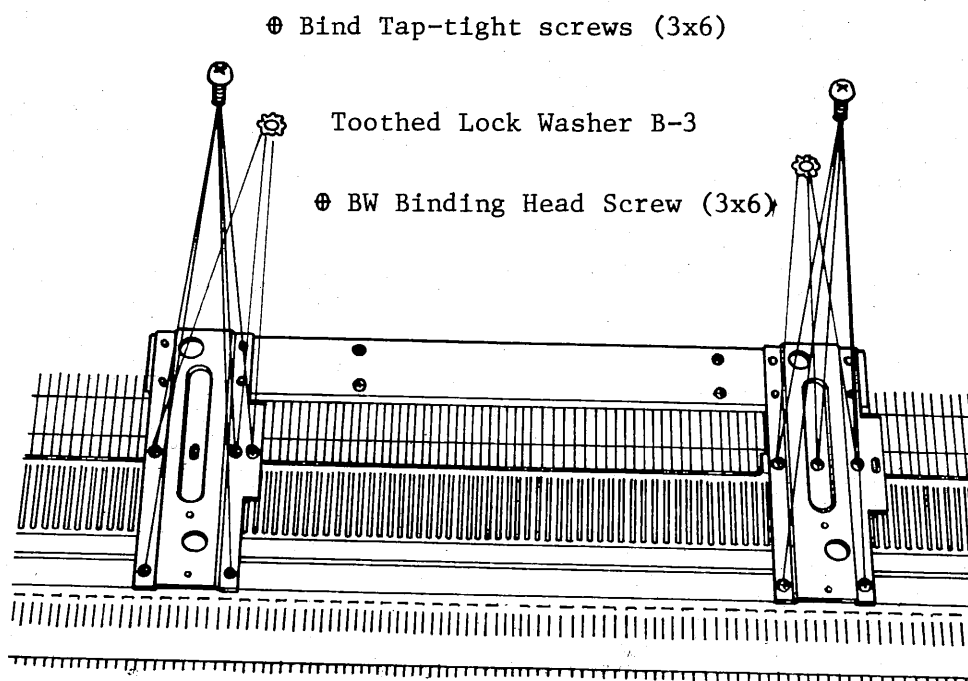
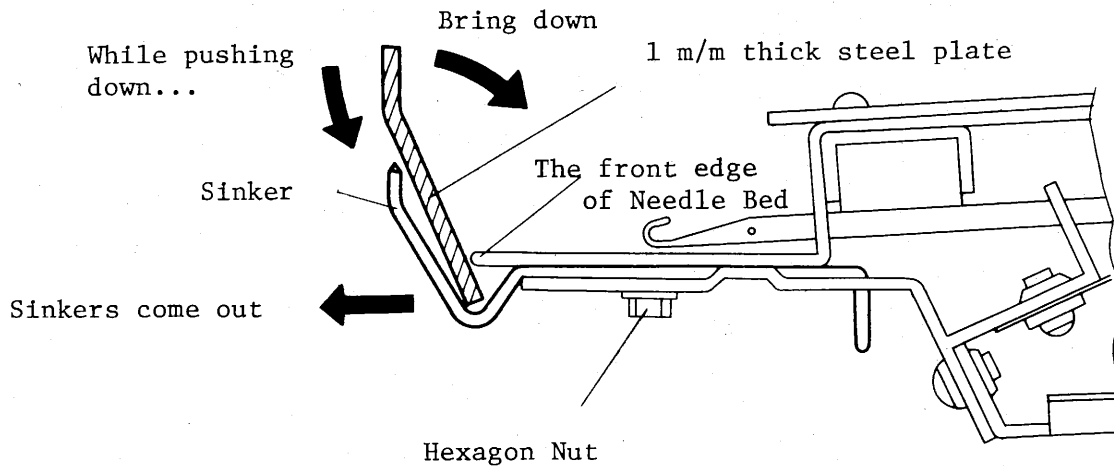

Fig. 55
Fig. 66
(5) Remove ten $\oplus$ binding screws (3x5) used to fix Needle Bed Bracer (A) and Pattern Assembly will come separated from Needle Bed. Fig. 55
- (3) Insert about 1 m/m thick steel plate between the Sinkers and the front edge of Needle Bed as shown in Fig. 66 with the steel plate kept pressed downward, bring it down in the arrow-marked direction, and the Sinkers can be moved forward. Repeat the above action for correct alignment of the Sinkers.
- (1) Referring to Fig. 55 remove the Pattern Unit from the main body, and remove the Stop Knob with a screw driver as shown in Fig. 66.